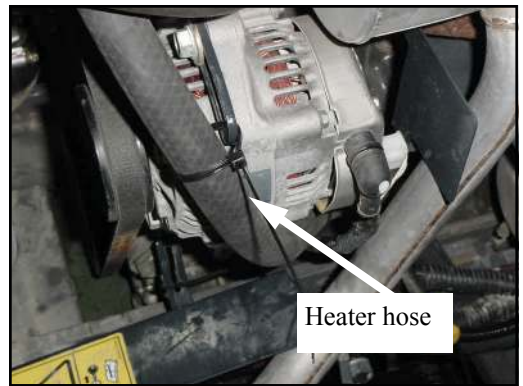

FIG 5
E. Reference Figures 5 and 6. Use the remaining hose to run from the sending unit adaptor to the left side of the engine, on to the heater and attach with small hose clamps.